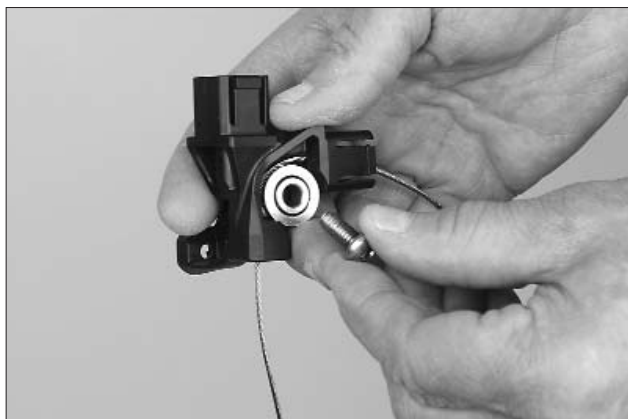

FIGURE 69
6. Align the bearing against the wire rope so that the bearing center and the hole in the block line up. See Figure 69.